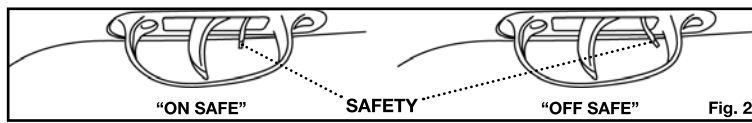

Fig. 2
- The letters "F" (fire) and "S" (safe) on the bottom of the trigger guard indicate the appropriate position of the safety (Fig. 2).
- Push the safety towards the trigger to put the safety on. The safety is on, and the airgun is "ON SAFE" when the lever is in the rear position (near the trigger). (Fig. 2)
- Push the safety to the forward position (away from the trigger). When the airgun is "OFF SAFE" (Fig. 2) it is ready to be fired after following the instructions in this manual on how to load.